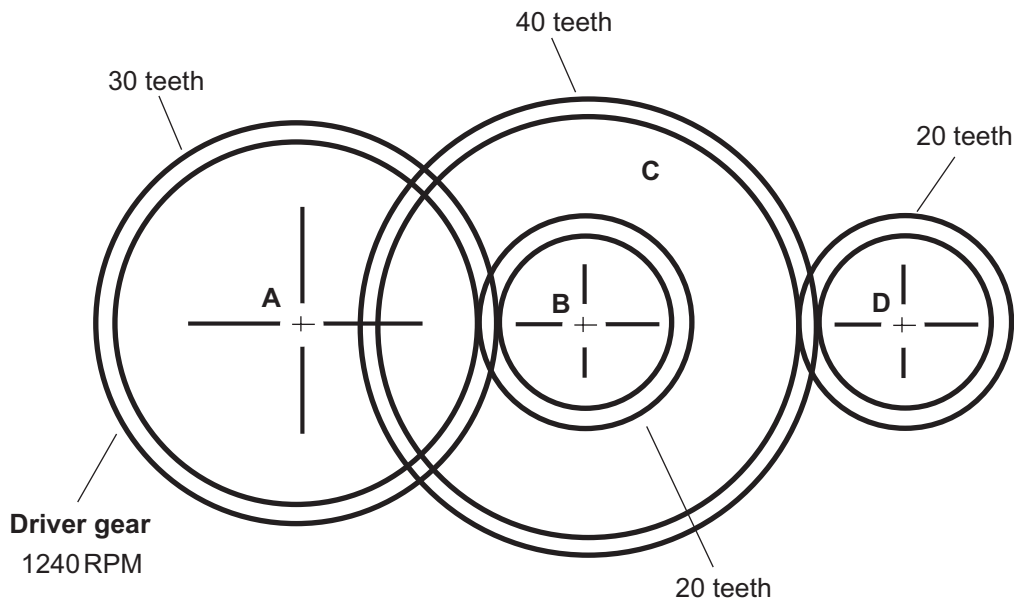

Fig. 2
- (c) A compound gear train shown in **Fig. 2** has two pairs of meshed gears: **A** and **B**, and **C** and **D**. Gear **A** has 30 teeth, gear **B** has 20 teeth, gear **C** has 40 teeth and gear **D** has 20 teeth. The driver gear **A** rotates at 1240RPM.